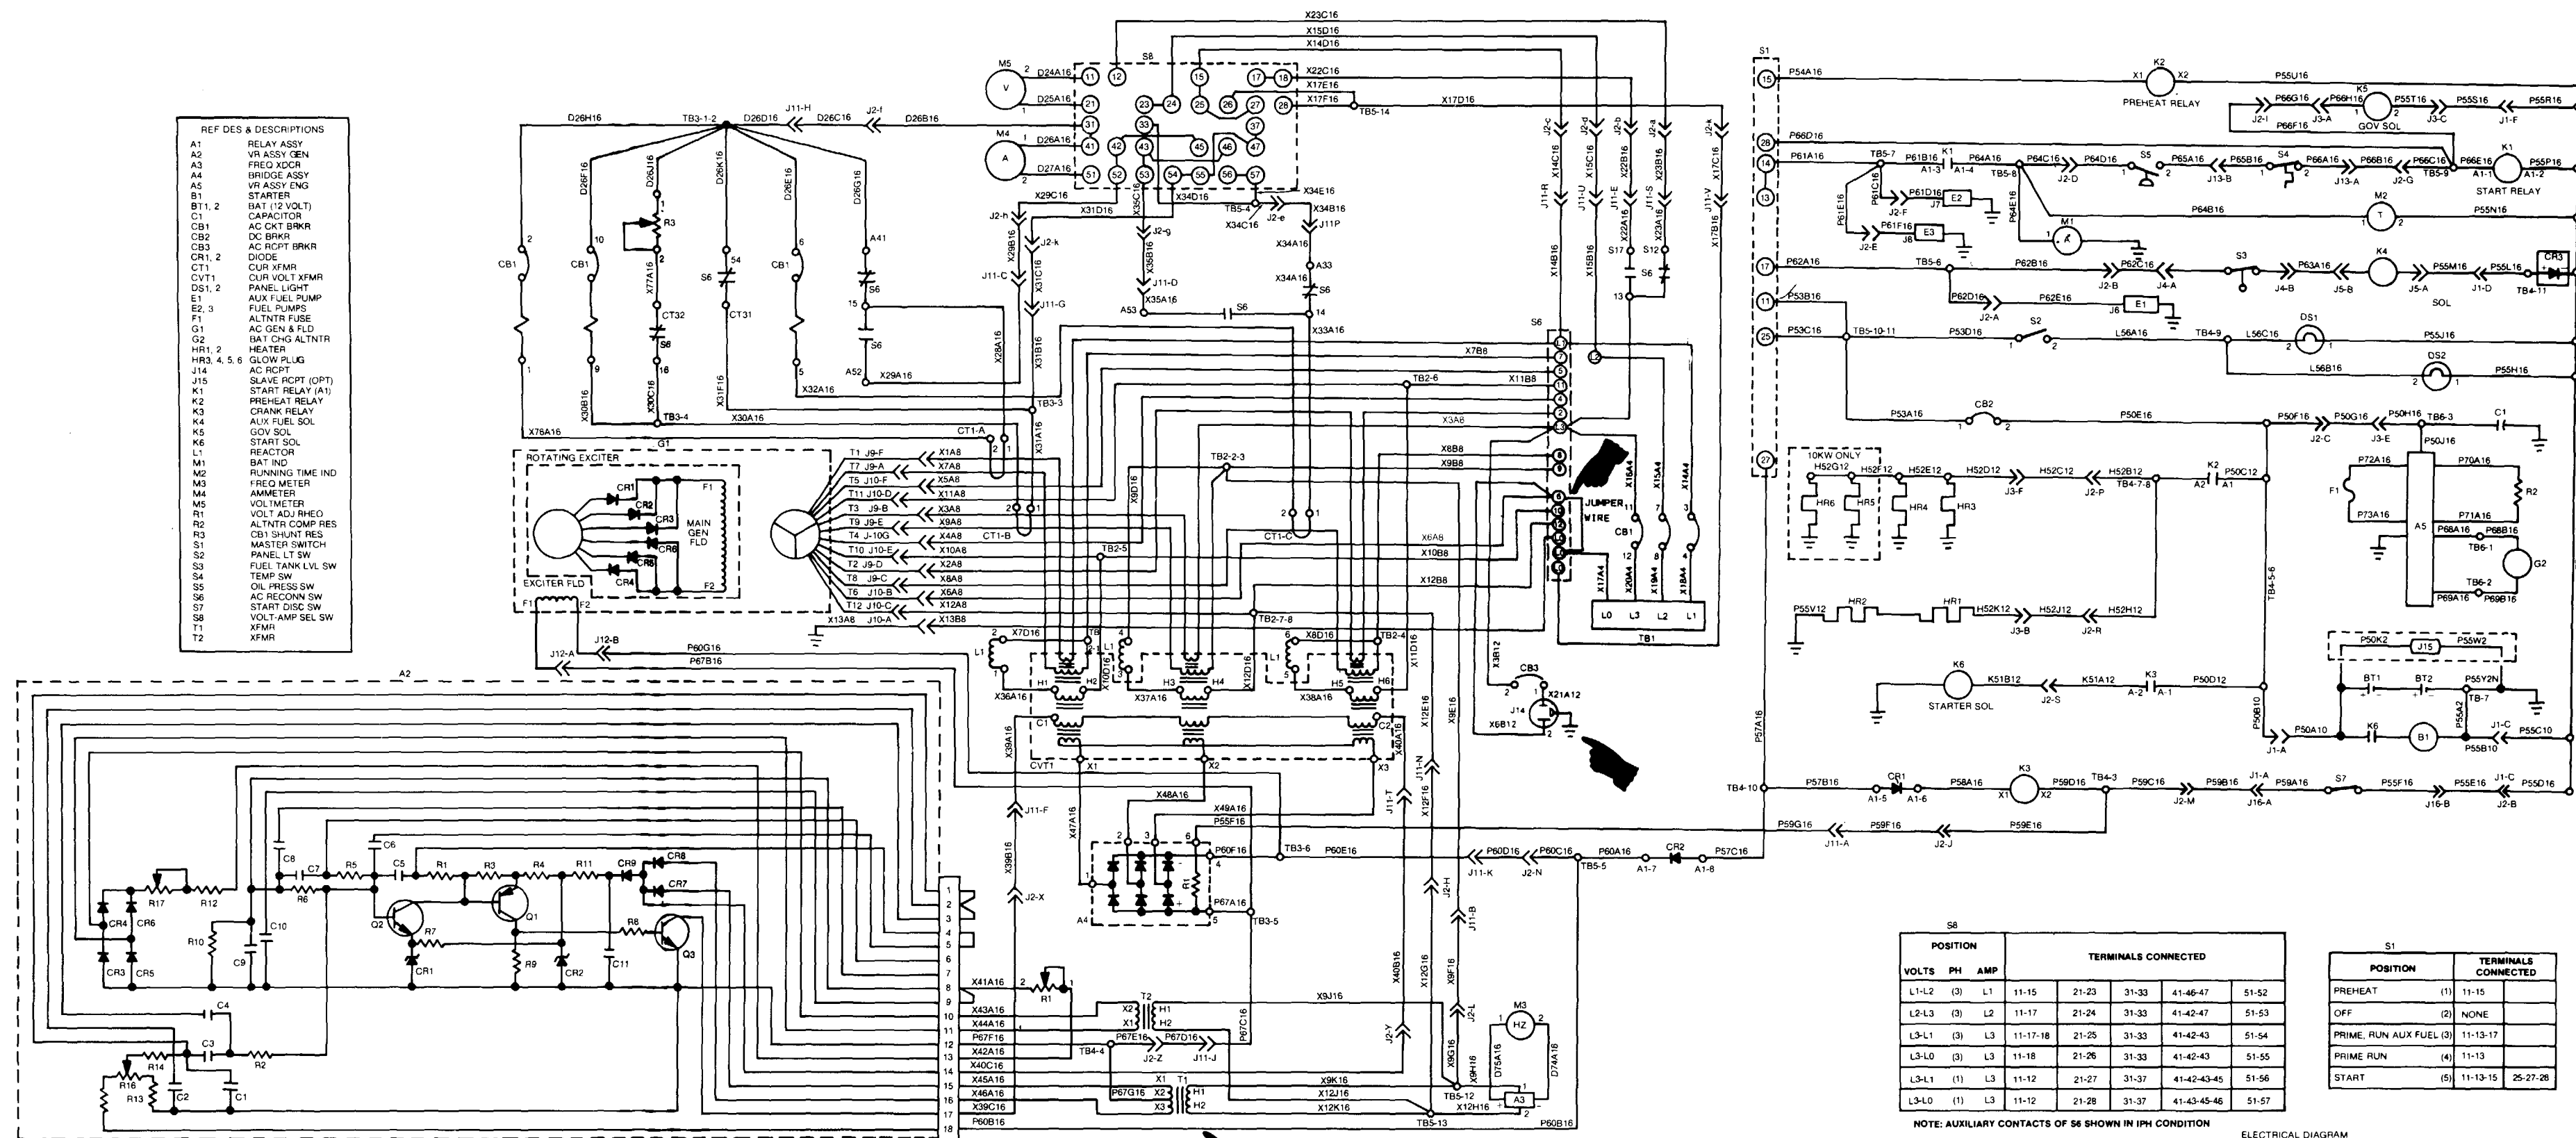

Figure 1-1. Generator Set Electrical Schematic.
(1) High temperature switch. Refer to Operator and Organizational Maintenance Manual.
(2) Low oil pressure switch. Refer to Operator and Organizational Maintenance Manual.
(3) Fuel level switch (day tank). Refer to Operator and Organizational Maintenance Manual.
n. Schematic Wiring Diagrams. Figure 1-1 shows the schematic wiring diagram of the power plant.
(1) Table 1-1 lists specific torque values.
(2) All torque values are calculated for oil lubricated threads. Increase this value by 10 percent when threads are not Lubricated.